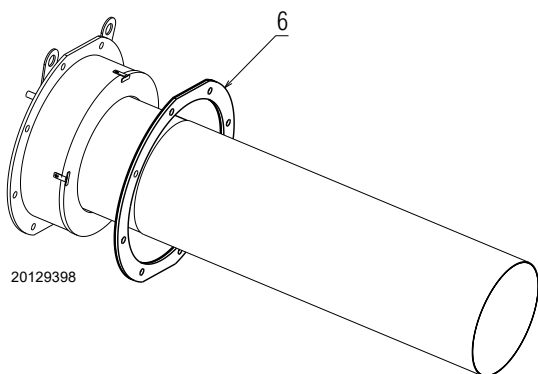

Fig. 17
- Check the correct positioning of the insulating gasket 6 6)(Fig. 17); the black side must be faced the burner flange and the white one to the boiler side.